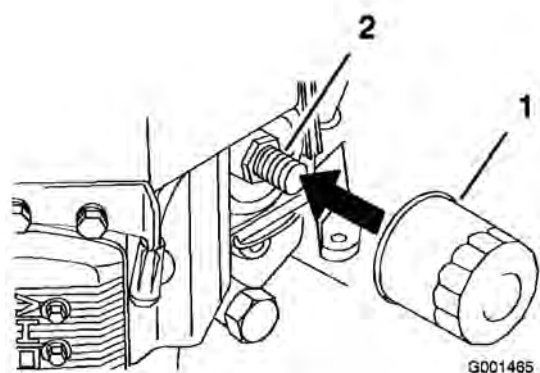

Figure 30
2. Remove the old filter (Figure 30).
3. Apply a thin coat of new oil to the rubber gasket on the replacement filter (Figure 30).
4. Install the replacement oil filter to the filter adapter, turn the oil filter clockwise until the rubber gasket contacts the filter adapter, then tighten the filter an additional 3/4 turn (Figure 30).